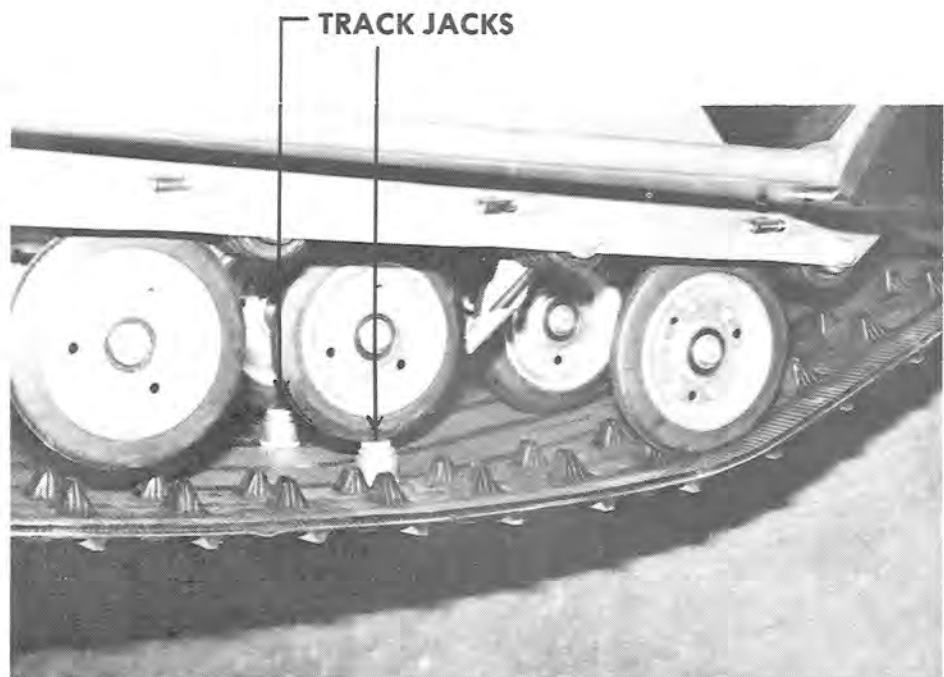

FIG. 5-12
4. Insert both "Track Jacks" between the track and both bogey wheels as shown in Fig. 5-12.